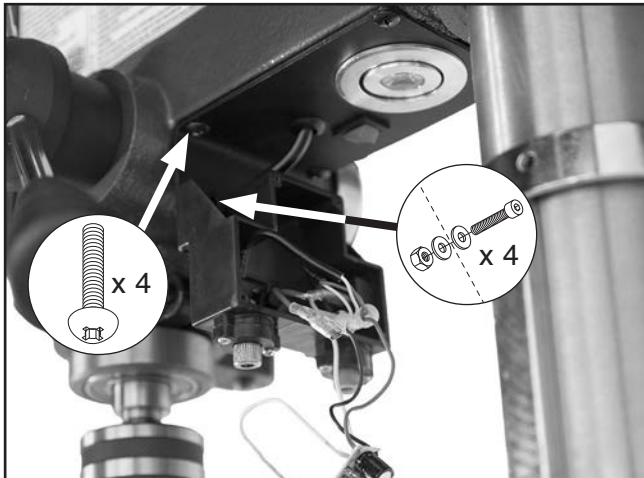

Figure 81. Location of laser module electrical box and LED assembly fasteners.
- Remove (4) cap screws, (8) flat washers, and (4) hex nuts shown in **Figure 81** to remove laser module electrical box from LED assembly. Set electrical box aside for now.
- Remove (4) Phillips head screws to remove LED assembly from headstock (see **Figure 81**). Allow LED assembly to hang from headstock for now.